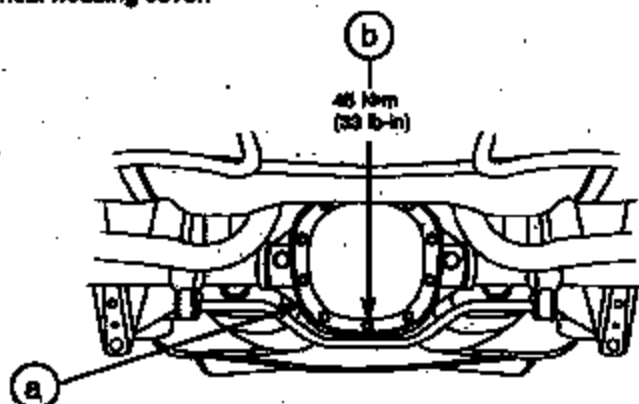

FIGURE 23
3. Install the differential housing cover (refer to Figure 23).